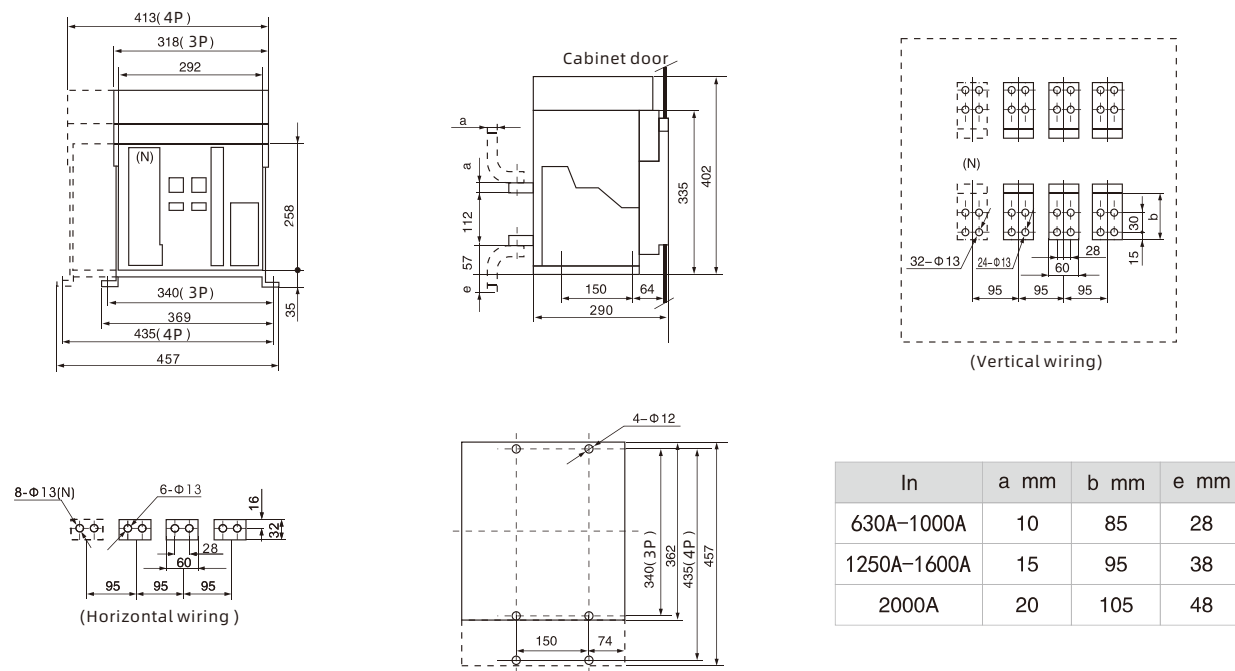

Figure 8 Fixed circuit breaker overall and installation dimensions (ARW1-2000, 2000/4)
1.1 Fixed circuit breaker overall and installation dimensions are shown in Figures 8 and 9